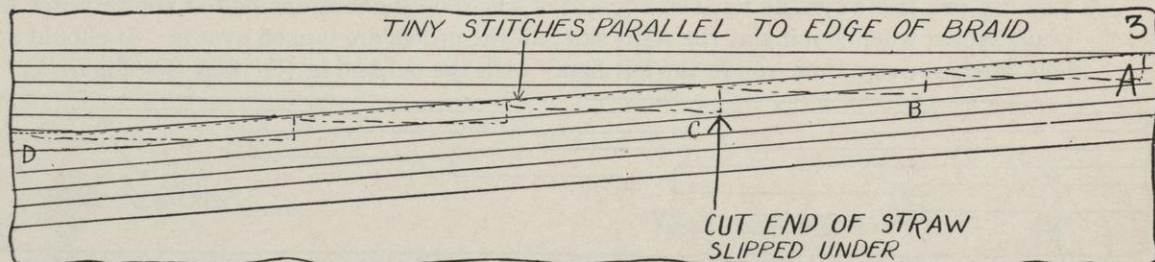
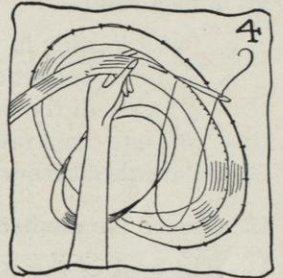

FIG. 3.
FIG. 4.
- a. Lap straw directly over the first row for just $\frac{1}{2}$ inch and sew with fine running stitches, which are always taken parallel to the length of the braid (see point A in Figure 3).
- b. Sew the finished edge of the second row of braid carefully on to the first row until you reach just beyond where you cut off the second row (see point *B* in Figure 3, page 268). **Let no raw edge from the end of the "cut-off" row show.**
- c. Then gradually sew the finished edge along the second row, until you reach just beyond where you cut off the third row (see point *C* in Figure 3, page 268).
- e. Continue in this way until you reach the bottom row, which is the unfinished edge of the first row (see point *D* in Figure 3, page 268). **This graduation must be done very carefully in order not to be able to see where you started.**
- g. When you reach the bottom edge of the first row, lap the finished edge of the second row over it, exactly the same amount as the braid is lapped where it is sewed by machine, (see point *D* in Figure 3, page 268) and continue sewing the entire brim, observing the following suggestions:
- (1) Hold the braid firm.
- (2) Draw the thread tight.
- (3) Take even stitches.
- (4) Do not stick your needle through a reinforced fabric model frame, but keep your index finger directly under the straw that you are sewing and draw the straw tight (see Figure 4). In reality this is a tiny slipstitch.
- (5) Do not let tiny stitches cross over any of the wires in a model frame, for these stitches must be cut to remove straw, and then the straw will rip.
- (6) Wherever there are pleats or curves, and the straw braid does not hug the model frame tight, baste braid to model frame to hold it in place.